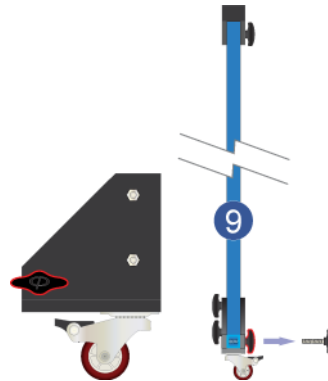

Figure 7 - ALT-930-2M Triple Loop Antenna Assembly – Step #3
- Step #3** Remove the bottom finger-knob bolt from each of the four Corner Base Supports with Swivel Casters, Vertical Post & Dual Loop Clamp Assembly9 as shown in Figure 7.